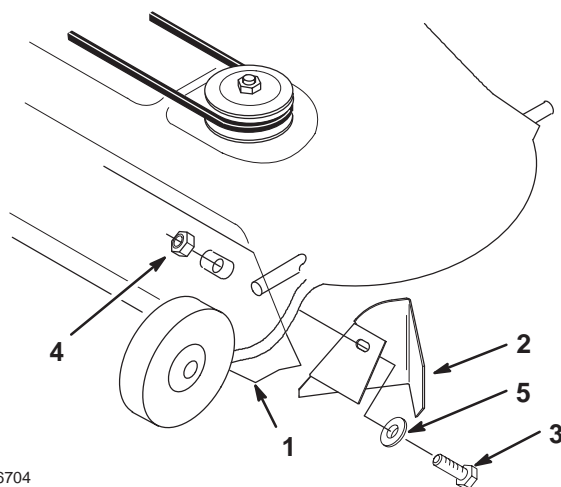

Figure 4
1. Remove the bolt(s) and nut(s) at the end of the grass plate, located inside the mower, near the back edge of the discharge opening (Fig. 4). Discard this hardware.
2. Find the appropriate grass baffle (Fig. 4).
4. For 107 cm mowers, secure the grass baffle with a carriage bolt (3/8 x 1 inch), washer (3/8 inch) and a locknut (3/8 inch) (Fig. 4).